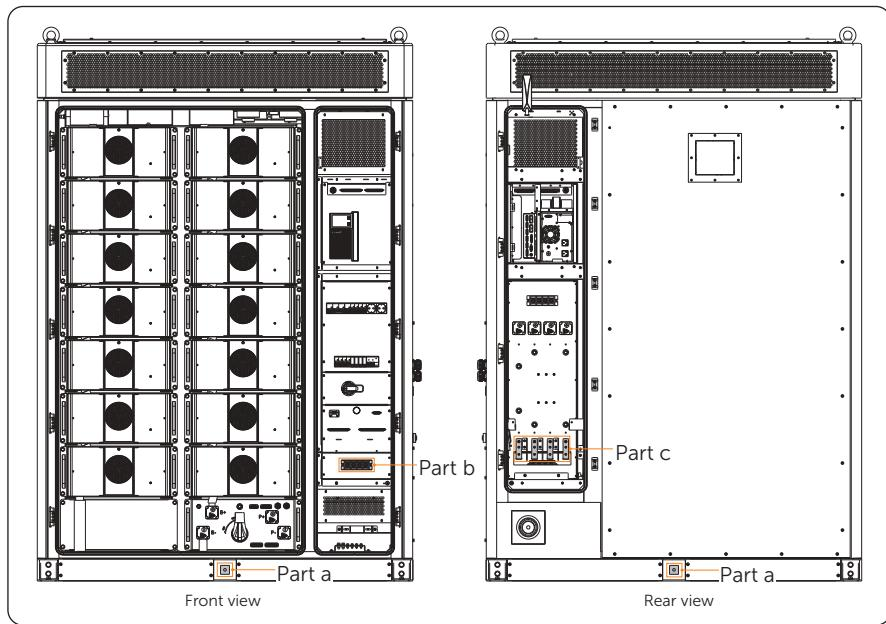

Figure 7-1 Part that needs wiring
- Before wiring, operators are required to learn which parts need to be conducted wiring. For details, please refer to Figure 7-1.
The device supports grounding plate connection and PE connection. Regarding the wiring area, see **Part a** in "Figure 7-1 Part that needs wiring", please strictly follow the steps below.